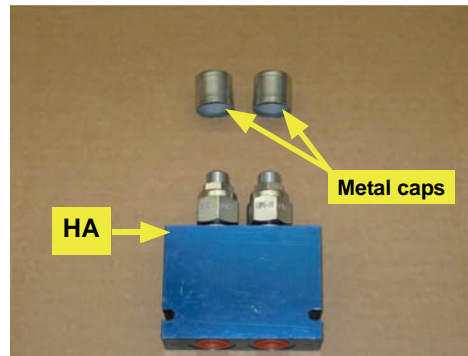

Figure 1a: CBV - metal caps removed
- a. Using a pair of pliers remove the two metal caps from the counterbalance valve (Figure 1a).